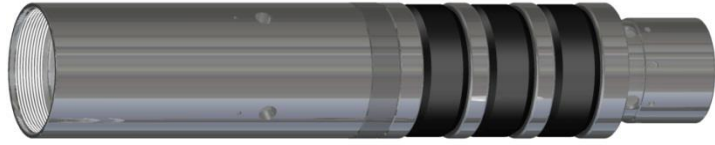

Fig. 4
L-15.2) Screw rubber mandrel (11) into center coupling (10) (Fig. 4). Hand-tighten until body of rubber mandrel (11) contacts o-ring (39).